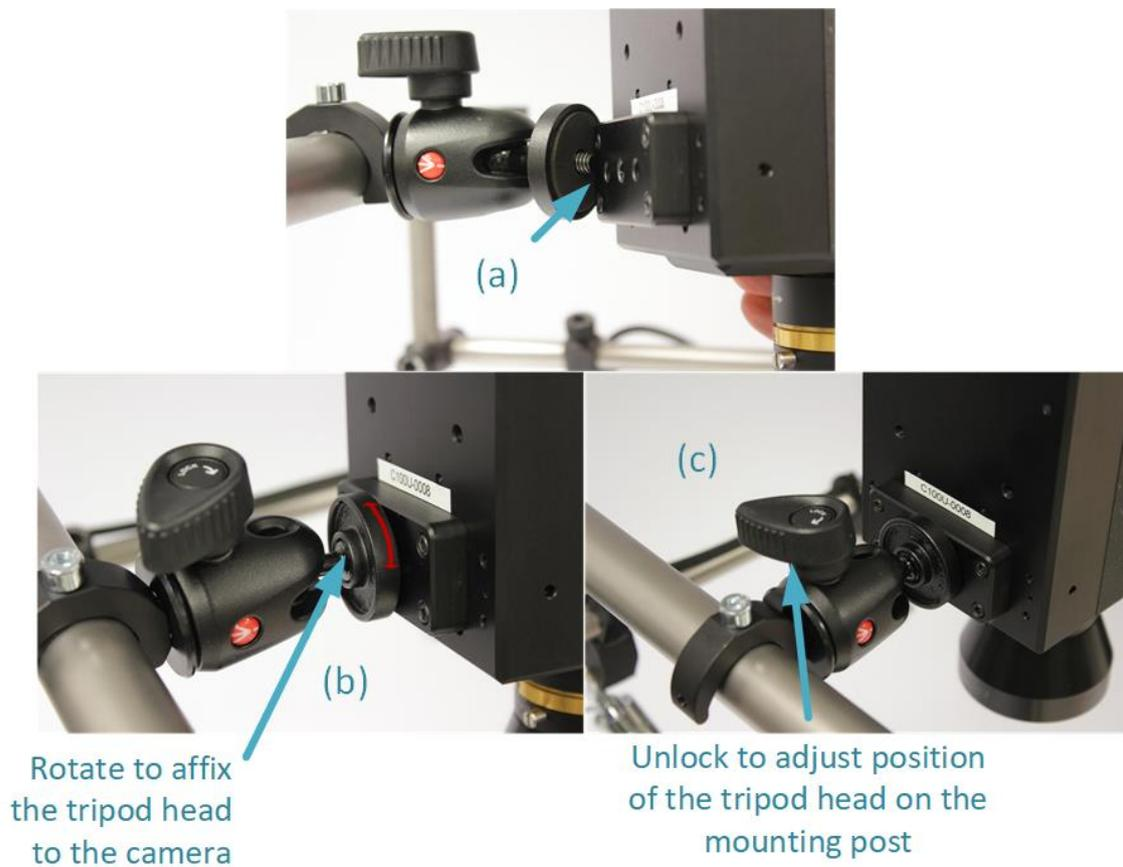

Figure 42 Mounting of snapscan camera on to the tripod head
Step 7.2 Mount the snapscan camera on the tripod head (Figure 42)